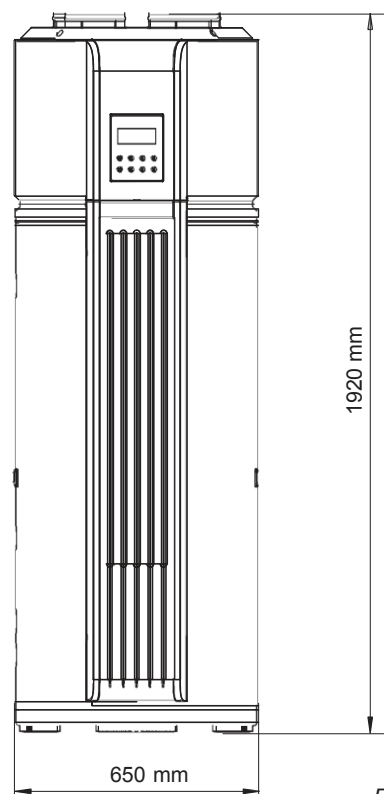
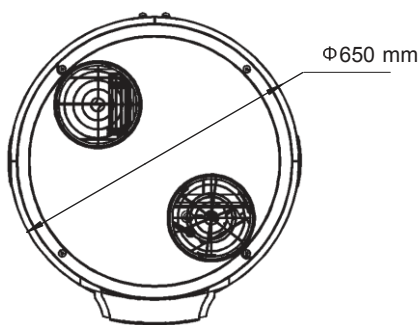

Fig.4-1
Fig.4-2
- Outline dimensional drawing (see Fig.4-1, Fig.4-2)